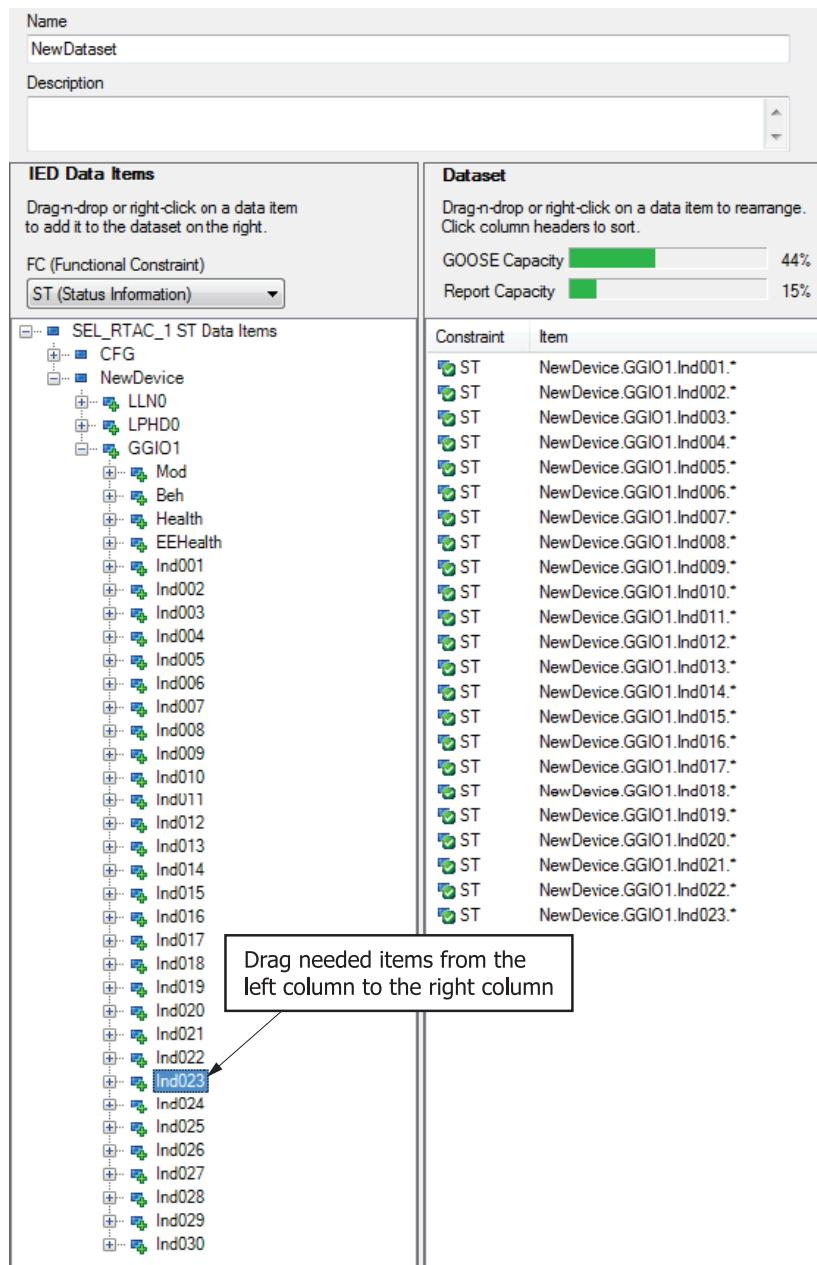

Figure 2.54 Create a Dataset
- Step 9. Click **Datasets** to create a new dataset or edit an existing dataset. Note the new logical device (named **NewDevice** by default) created in *Step 6* is available for mapping into a DataSet. See *Figure 2.54*.